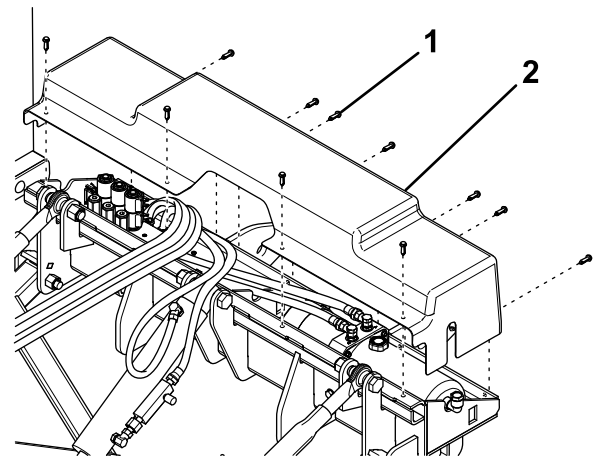

Figure 14
12. Attach the coupler assembly cover using 11 push rivets (**Figure 14**).